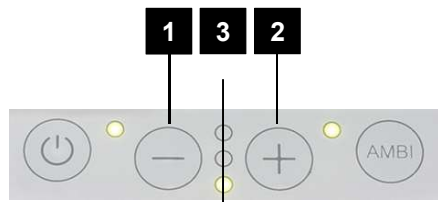

Figure 21: Setting the lighting intensity
1. Press the [PLUS] key (Figure 21/2) on the touch control of the light repeatedly or hold it down continuously until the desired illumination intensity is reached. The adjusted illumination intensity is indicated by green LED signal lights (Figure 21/3).
1. Many a time press the key [MINUS] (Figure 21/1) on the touch control of the lamp or hold it down continuously until the desired decrease in the illumination intensity is reached. The adjusted illumination intensity is indicated by LEDs (Figure 21/3).